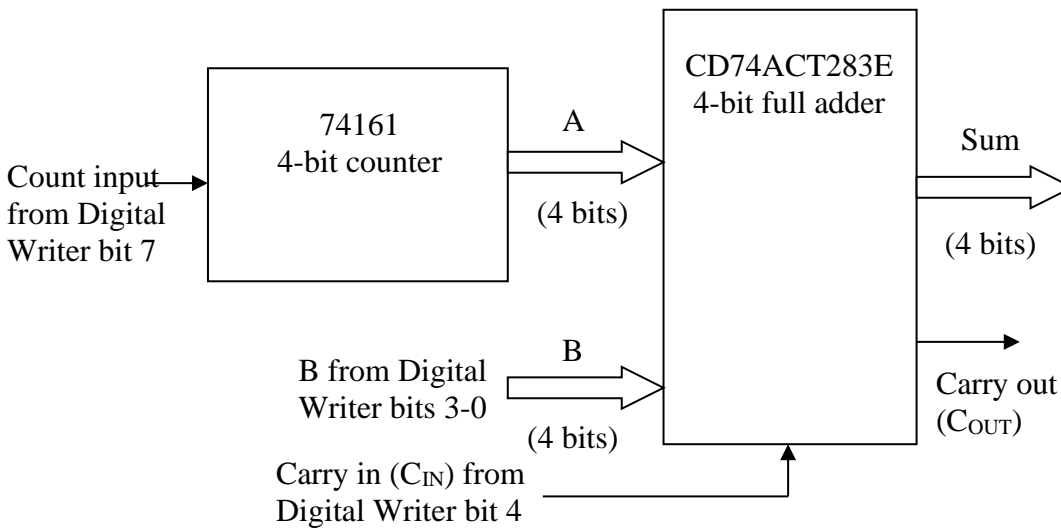

Figure 5. Block diagram of 4-bit full adder circuit.
3. Use *Multisim* to build the 4-bit full adder circuit shown below in Figure 5. Include the schematic in your Pre-lab. Fill in a table of results similar to Table 6. Are your results correct?
Use the CD74ACT283E to add two 4-bit binary numbers. As illustrated in Figure 5, one of the 4-bit numbers (we will designate it *A*) will come from a 74161 counter. The other (called *B*) is to be applied by the Digital Writer via bits DIO 3-0 and the Carry input (called *CIN*) is to be applied by a the Digital Writer via bit DIO 4. Likewise, the 74161 clock is to be applied by the Digital Writer via bit DIO 7.